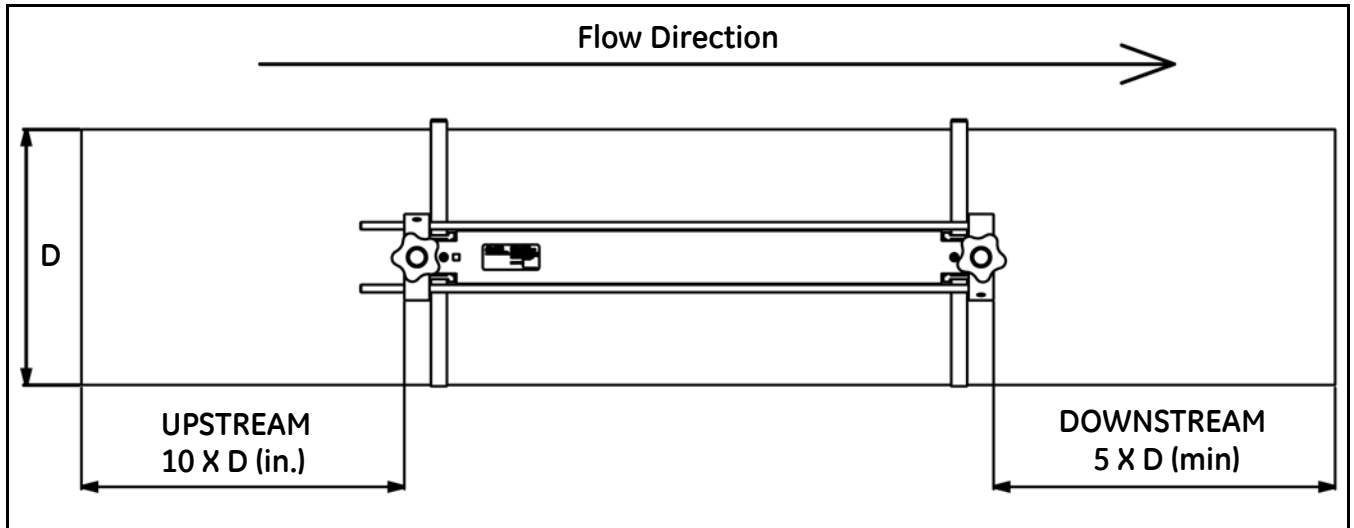

Figure 7: AT600 Clamp-On Fixture/Transducer Location
- Position the clamp-on fixture(s) and transducer system so that there are at least 10 pipe diameters of straight, undisturbed flow upstream and 5 pipe diameters of straight, undisturbed flow downstream from the measurement point (see *Figure 7* below). Undisturbed flow means avoiding sources of turbulence in the fluid such as valves, flanges, expansion joints, elbows, swirl, and cavitation.
- a. Choose a location with enough straight pipe run (refer to Figure 7 on page 7).